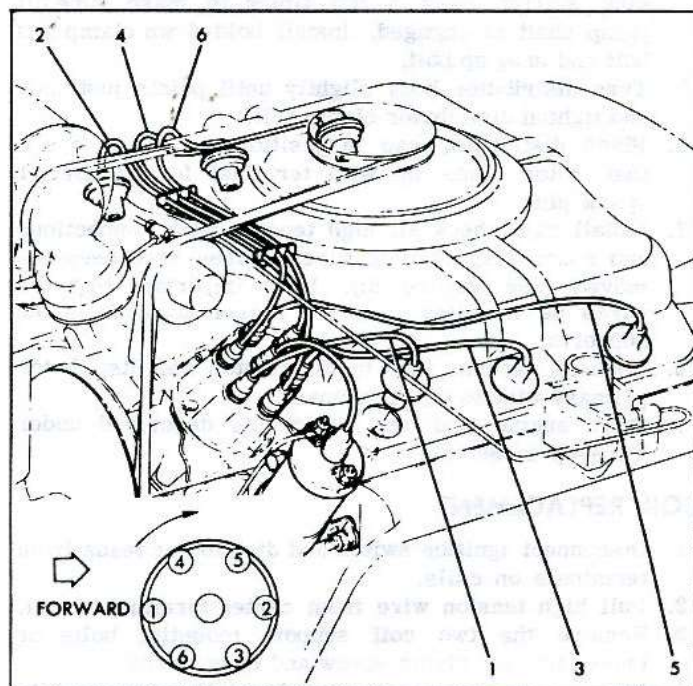

Fig. 8i—Distributor, Spark Plug Wires Installed
3. Replace distributor hold-down clamp and bolt. Connect primary lead to coil terminal. Replace distributor cap. Also install spark plug and coil secondary wires if removed (fig. 8i).
7. Install cap, check all high tension wire connections and connect spark plug wires if they have been removed (See Figure 8i). It is important that the wires be installed in their proper location in the supports.